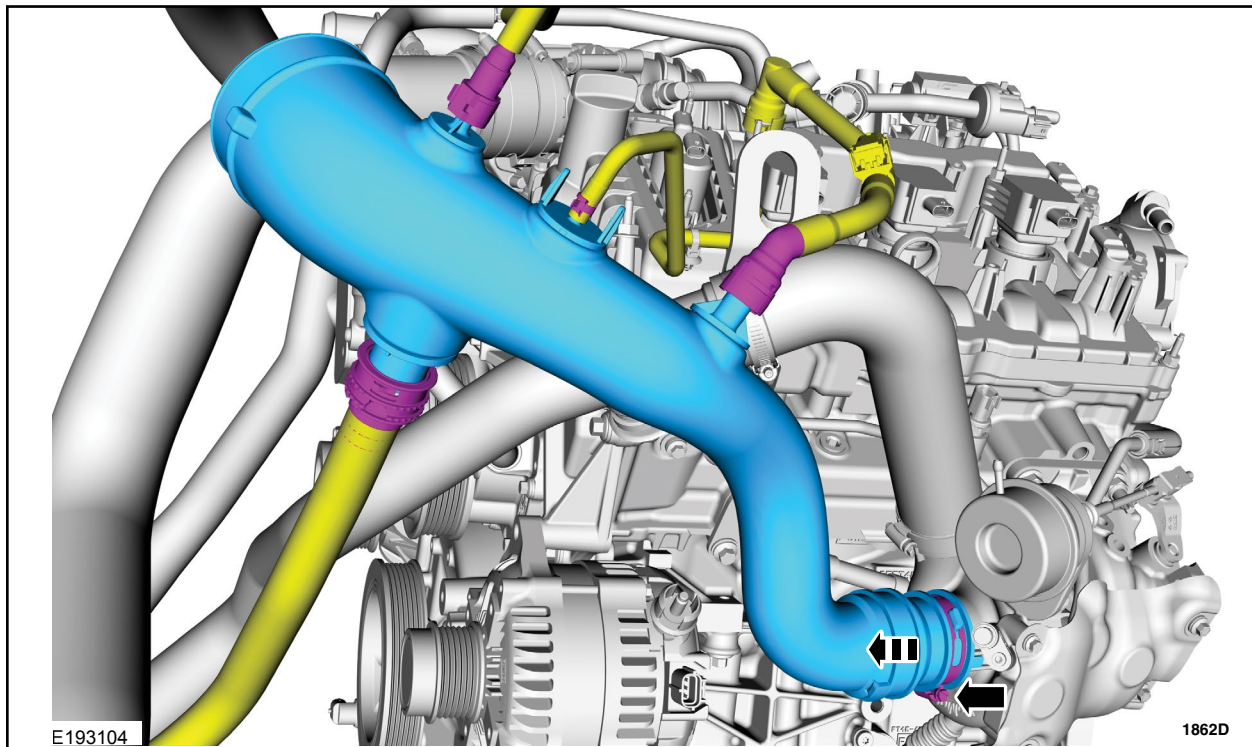

FIGURE 1
3. Loosen and position aside the CAC tube. See Figure 1.
10. Install the CAC tube. See Figure 1.